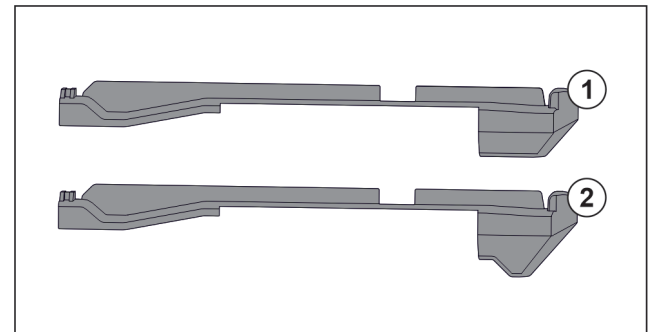

Fig. 62 Comparing attachments
There are two different attachments in the appliance. The attachment above the lowest drawer Fig. 62 (2) has a three-cornered edge. All other attachments Fig. 62 (1) have a straight edge.
- ▶ Fit attachment Fig. 62 (2) with the three-cornered edge above the lowest drawer.
- ▶ Fit attachment *Fig. 62 (1)* with straight edge in all other positions.